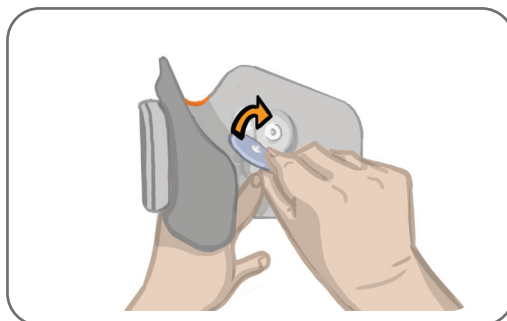

Figure 8-5: Attaching the Round Cloth Electrodes
6. Attach the Round Cloth Electrodes to the electrode bases. See Figure 8-5.